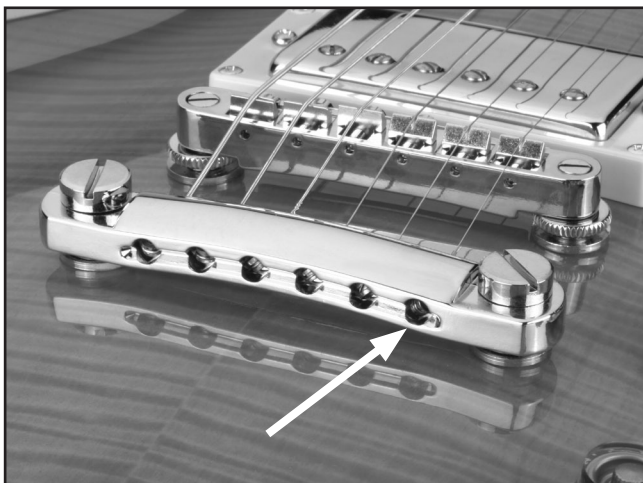

Figure 32. 1st string installation hole.
1. Slide the 1st string through the corresponding hole in the bridge (**Figure 32**).